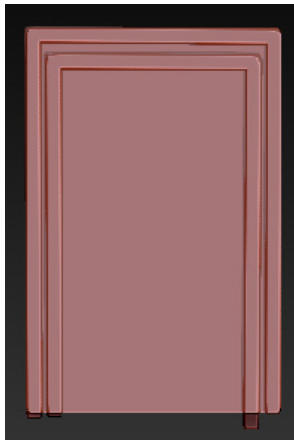

Figure 3-100 Another frame created for the door
7. Create another frame for the door, as shown in Figure 3-100.